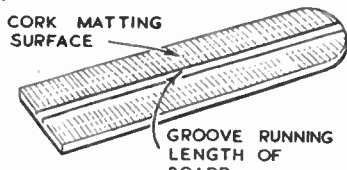

Fig. 3—A useful setting board
Simple setting boards are made by gluing a piece of cork matting to a board of the required size, then making a groove down the centre about  $\frac{1}{4}$  in. wide (see Fig. 3). Several of these can be made with grooves of varying widths to take variously sized specimens. A sharp knife or razor blade is best used for cutting the groove. (271)